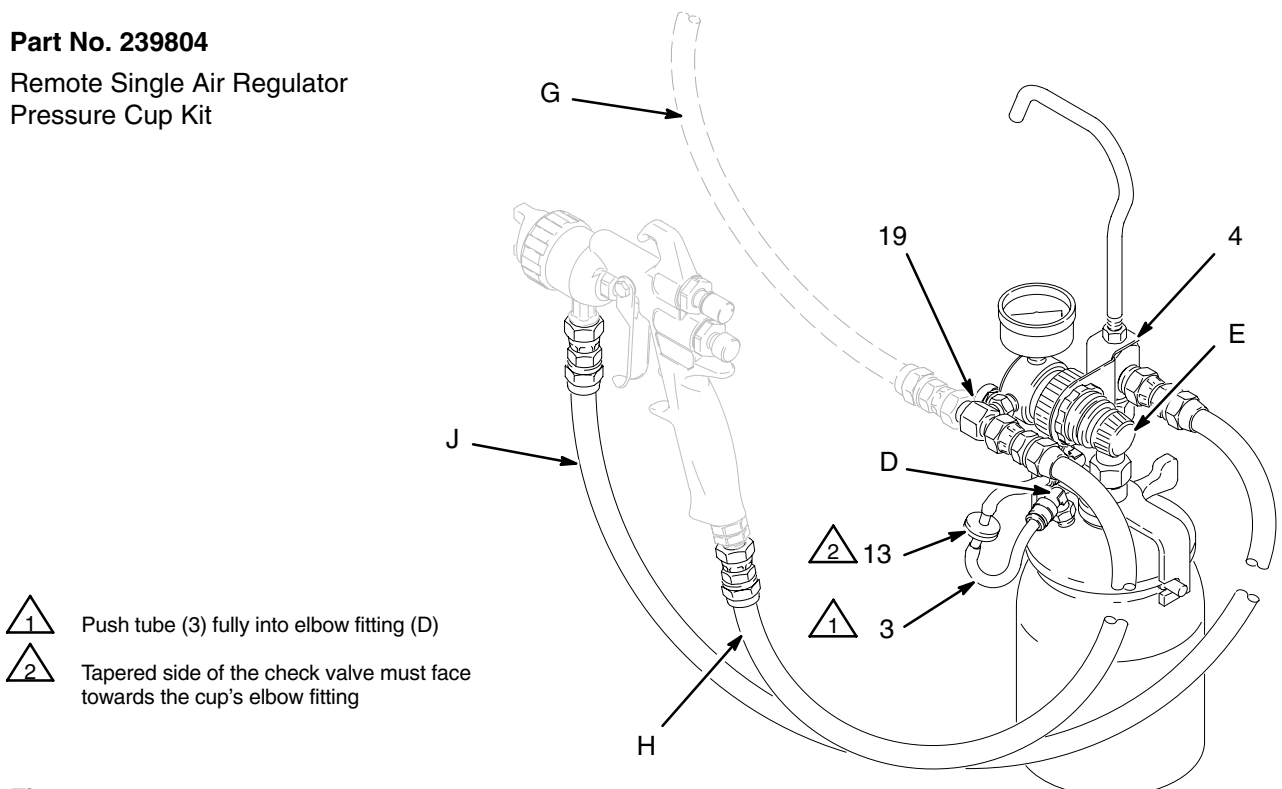

Fig. 3
1. Tighten the cup swivel fitting (E) onto the fluid outlet fitting (4) of the air regulator assembly. See Fig. 3.
2. Tighten the air supply line (G) onto the air inlet fitting (19).
3. Tighten the air line (H) onto the gun air inlet.
4. Tighten the fluid line (J) onto the gun fluid inlet.